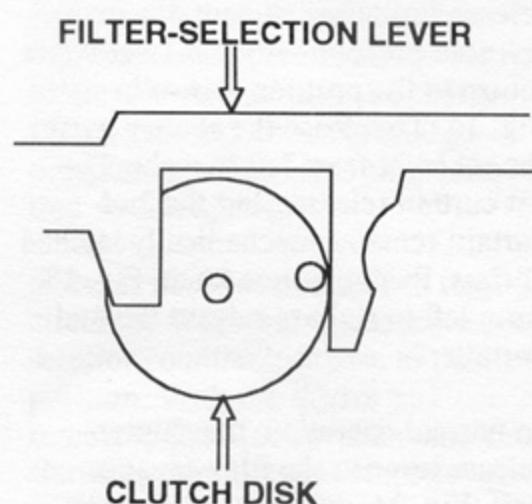

FIG. 20 TOP VIEW OF CLUTCH DISK
9. The filter lever on the mirror box, Fig. 14, connects to the filter-selection lever on the rewind-gear assembly, Fig. 2. Before seating the mirror box, **move the filter lever fully to your left** (as seen from the back of the mirror box). **Move the filter-selection lever on the rewind-gear assembly fully to the right** (as seen from the front of the camera)—turn the clutch disk until its pin moves the filter-selection lever toward the rewind side of the camera, Fig. 20. After seating the